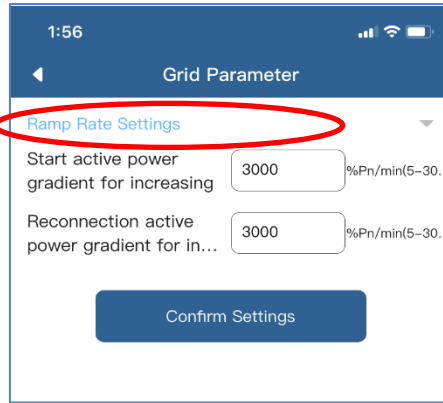

Figure 2-5-23 Ramp Rate Settings
Ramp Rate Settings: The power rate limit (W) for increase during connection and reconnection. As shown in figure 2-5-23.